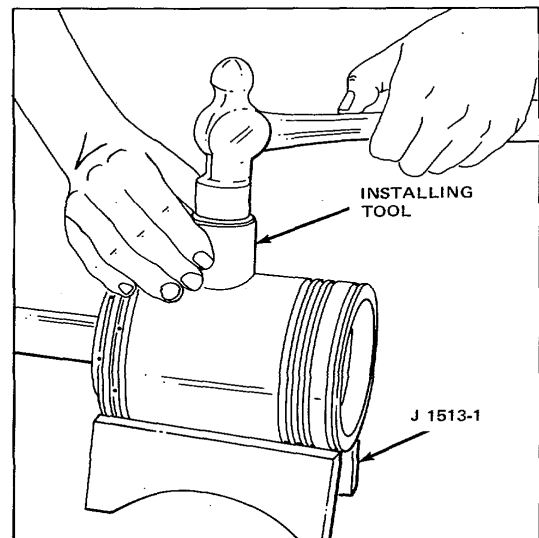

Figure 9. Installing Piston Pin Retainer
1. Place the piston in the holding fixture (Fig. 9).